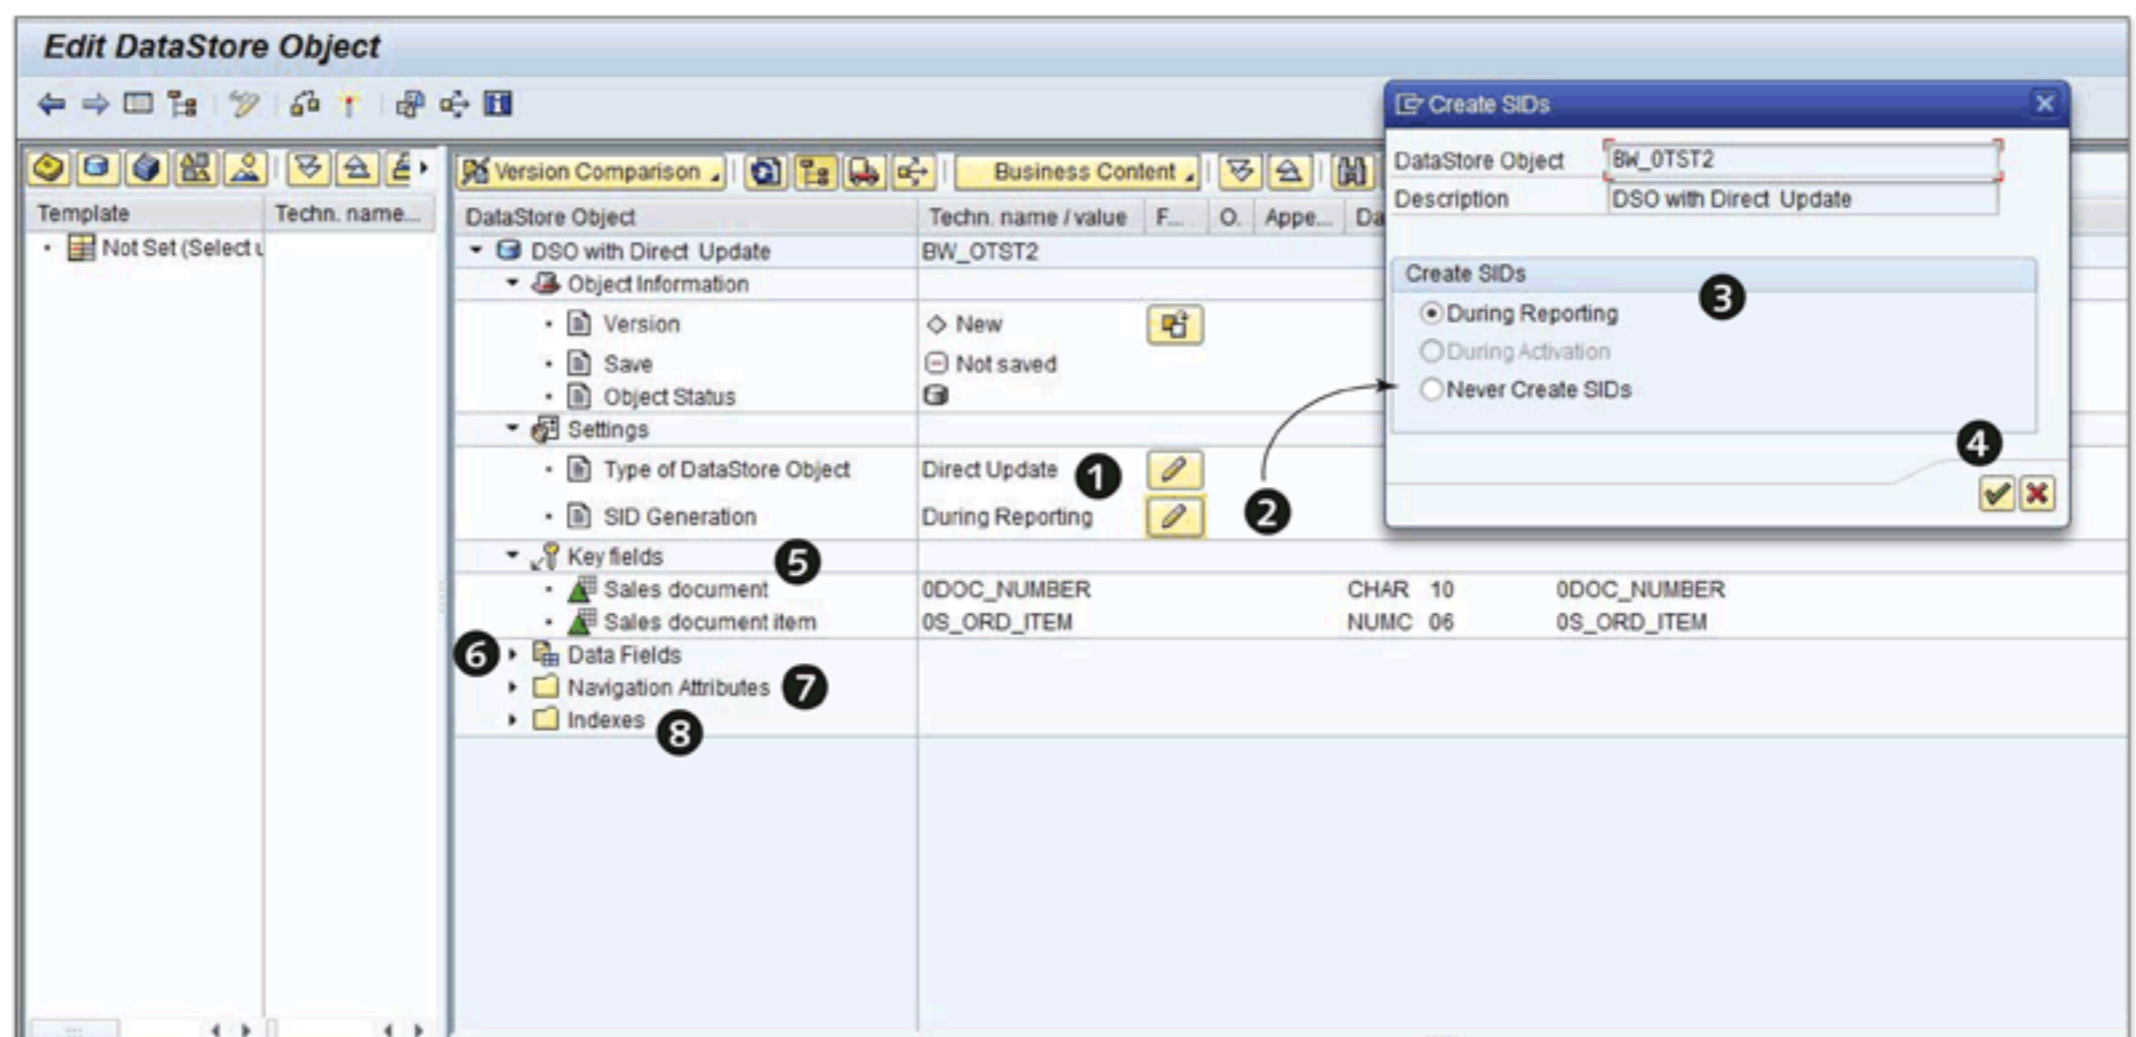

Figure 4.18 Creating a Direct-Update DSO
When creating a direct-update DSO, first change TYPE OF DATASTORE OBJECT to DIRECT UPDATE, as shown in ❶ of Figure 4.18. This type of DSO contains a semantic key, which is defined while creating the DSO (❺). No other settings are available while creating a direct-update DSO. You must also select the DATA FIELDS (❻), NAVIGATION ATTRIBUTES (❼), and INDEXES (❽).